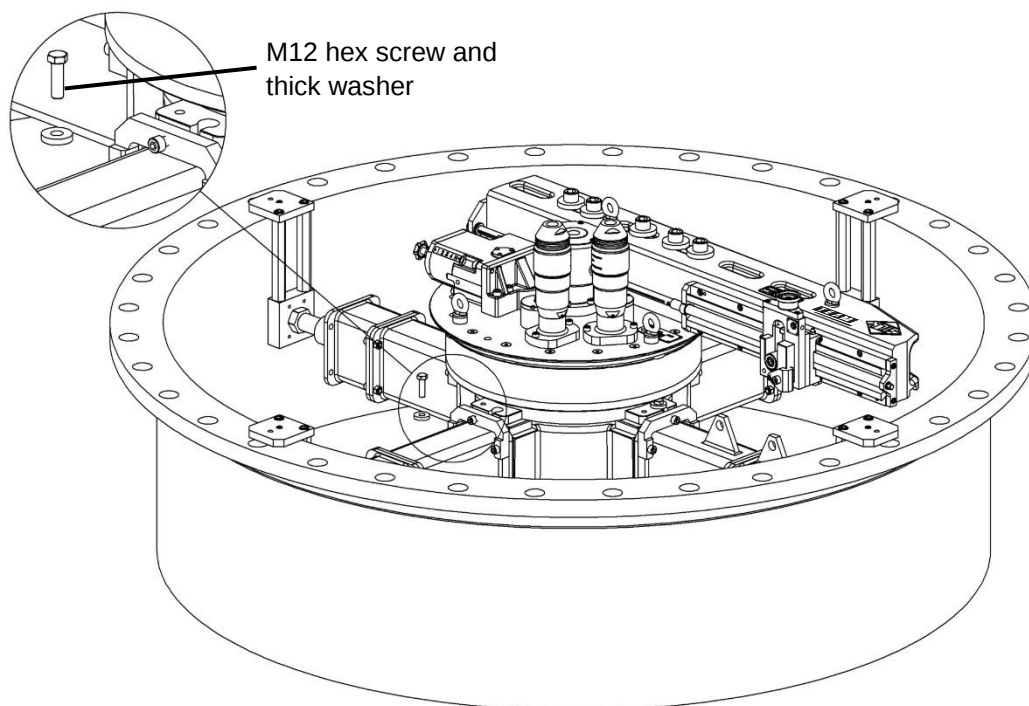
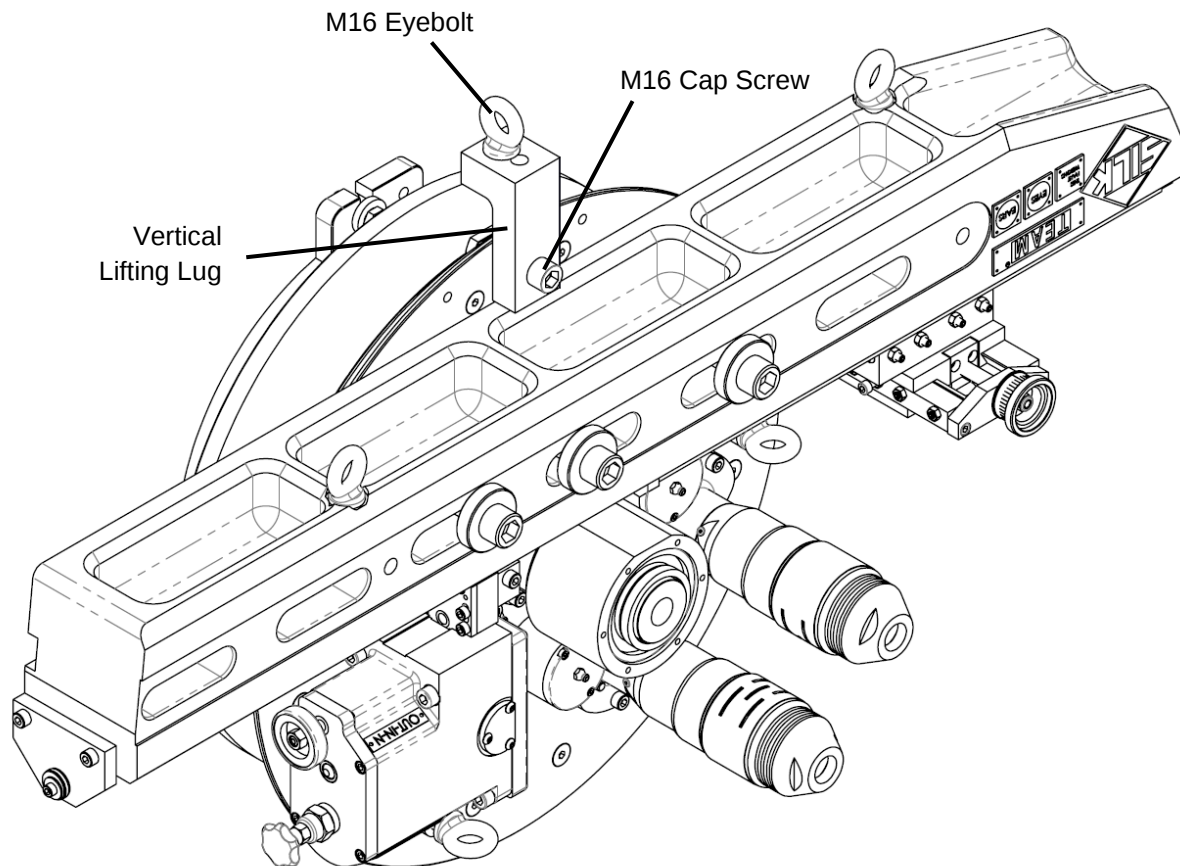

Fig. 15 Securing machine to base assembly
Fig. 19 Vertical lift – Main Drive Assembly and Surfacing Arm Assembly
4. Carefully position the machine onto the base and locate the centre spigot into the centering hole. Secure with the four M12 hex screws and thick washers (Fig. 15).
5. When locating the base assembly into the flange bore, the need will arise to level the base to check the machine is parallel to the flange. To check, attach and secure a dial test indicator (DTI) to the toolpost, connect the machine to the air supply (refer to section 5.3.1 and observe all Warnings and Cautions) and set the gearbox traverse selector to neutral (N). Open the air control valve and slowly move the surfacing arm around the flange. Check the DTI for variations and adjust the swash of the machine, if necessary, by tightening the grub screw in the centre of each setting strap plate against the flange face thus pulling the base up the bore. Recheck the base for rigidity.
6. Should the degree of accuracy required be greater than that achievable by location of the machine's spigot in the base unit, the machine can be centred relative to the base by unscrewing the centre spigot from the machine base plate and fitting a pusher plate to each of the bosses on the base unit (Fig. 15). The machine can then be adjusted as required, by nipping the M12 hexagon head screws to hold the position but allowing the machine to be pushed by turning the adjusting screw on each of the pusher plates. Using the DTI for comparison against the datum feature, check the base for alignment when the desired accuracy is achieved, secure the machine and check again.
5. With the assembly now at the work location remove the M16 eyebolt from the lifting boss adjacent to the surfacing arm location. Fit the vertical lifting bracket over the lifting boss and secure with supplied M16 x 40mm Cap Head Screw (see Fig. 19). The drive assembly can now be lifted into position and secured onto the base assembly by use of the four hexagon head screws and washers (See section 5.2.4, Fig. 15).